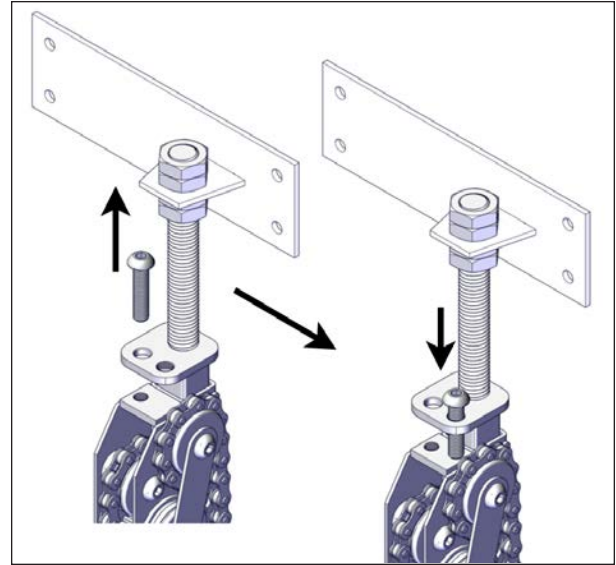

FIGURE 82: JACK LOCKING SCREW REMOVAL
7. Once the U-frames are installed, the jack lock screw located at the top of non-motor side jacks can now be unlocked safely. Remove the M8 x 35 mm locking screw and reinstall it in the hole next to it so you don't lose it. Remove the screw on both non-motor jack. You can remove the red tags on the non-motor jacks see Figure 82.